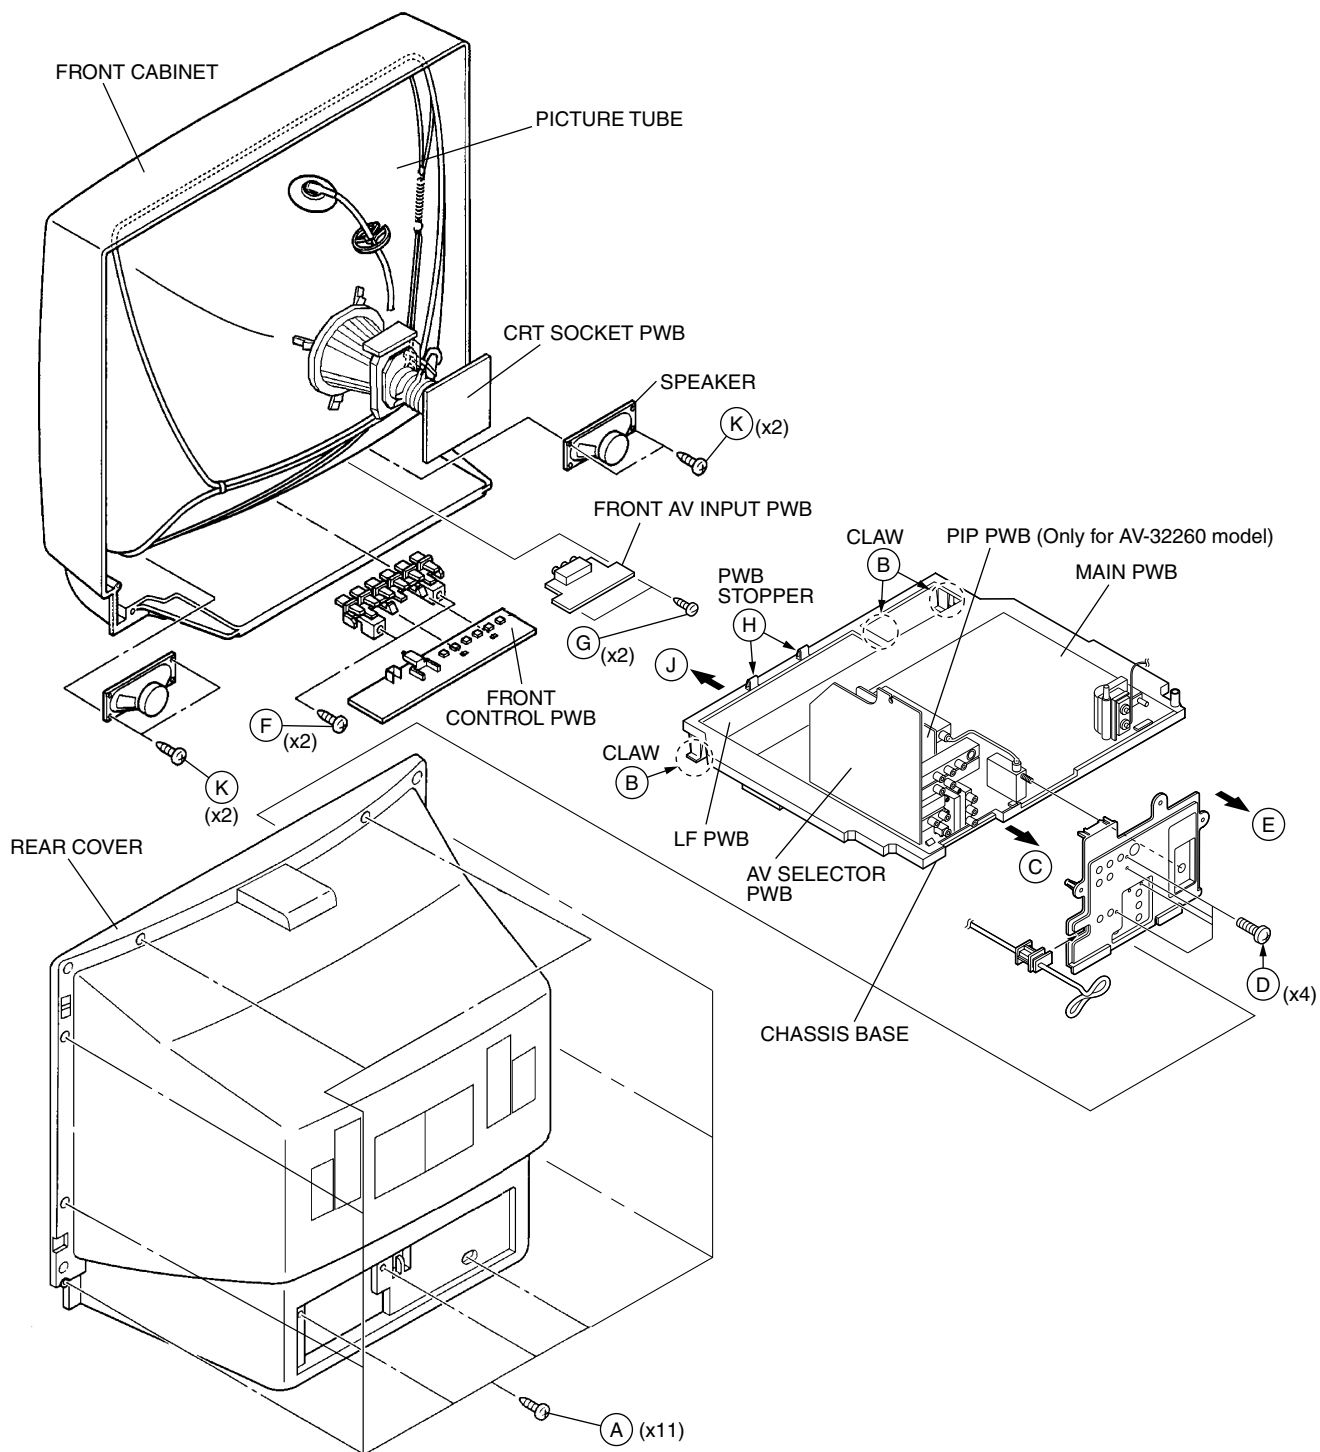
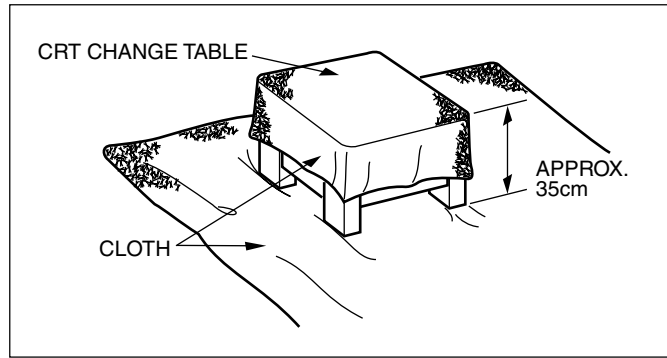

Fig.1
Fig. 2
2. Remove the 11 screws marked (A) as shown in Fig.1.
1. Slightly raise the both sides of the chassis by hand and remove the 3 claws marked (B) under the chassis from the front cabinet as shown in Fig.1.
2. Withdraw the chassis backward along the rail in the arrow direction marked (C) as shown in Fig.1.
1. Remove the 4 screws marked (D) as shown in Fig.1.
2. When you pull out the TERMINAL BOARD in the direction of arrow marked (E) as shown in Fig.1, it can be removed.
1. Remove the 2 screws marked (F) and the 2 screws marked (G) as shown in Fig.1.
1. Lift the left side of the LF PWB while pressing the 2 PWB stoppers marked (H) in the arrow direction marked (I) as shown in Fig.1.
1. Remove the 2 screws marked (K) as shown in Fig.1.
- 1. Putting the CRT change table on soft cloth, the CRT change table should also be covered with such soft cloth (shown in Fig.2).
(4) System constant check and setting <ol style="list-style-type: none"> <li>1) Press SLEEP TIMER key and, while the indication of "SLEEP TIMER 0 MIN." is being displayed, press DISPLAY key and VIDEO STATUS key on the remote control unit simultaneously.</li> <li>2) The SERVICE MENU screen of Fig.1 is displayed.</li> <li>3) While the SERVICE MENU is displayed, again simultaneously press the DISPLAY and VIDEO STATUS keys to display the Fig.2 SYSTEM CONSTANT screen.</li> <li>4) Refer to the SYSTEM CONSTANT table and check the setting items. Where these differ, select the setting item with the MENU UP/DOWN key and adjust the setting with the MENU LEFT/RIGHT keys. (The letters of the selected item are displayed in yellow.)</li> <li>5) After adjusting, release the MENU LEFT/RIGHT key to store the setting value.</li> <li>6) Press the EXIT key twice to return the normal screen.</li> </ol>	<div data-bbox="1036 814 1453 1123"> </div> <p>[AV-32230]</p> <div data-bbox="1036 1182 1453 1491"> </div> <p>[AV-32260]</p> <p>Fig.1</p> <div data-bbox="1036 1589 1453 1898"> </div> <p>Fig.2</p>
(7) SERVICE MENU setting Verify what to set in the SERVICE MENU, and set whatever is necessary.(Fig.1) Refer to the SERVICE ADJUSTMENT for setting.